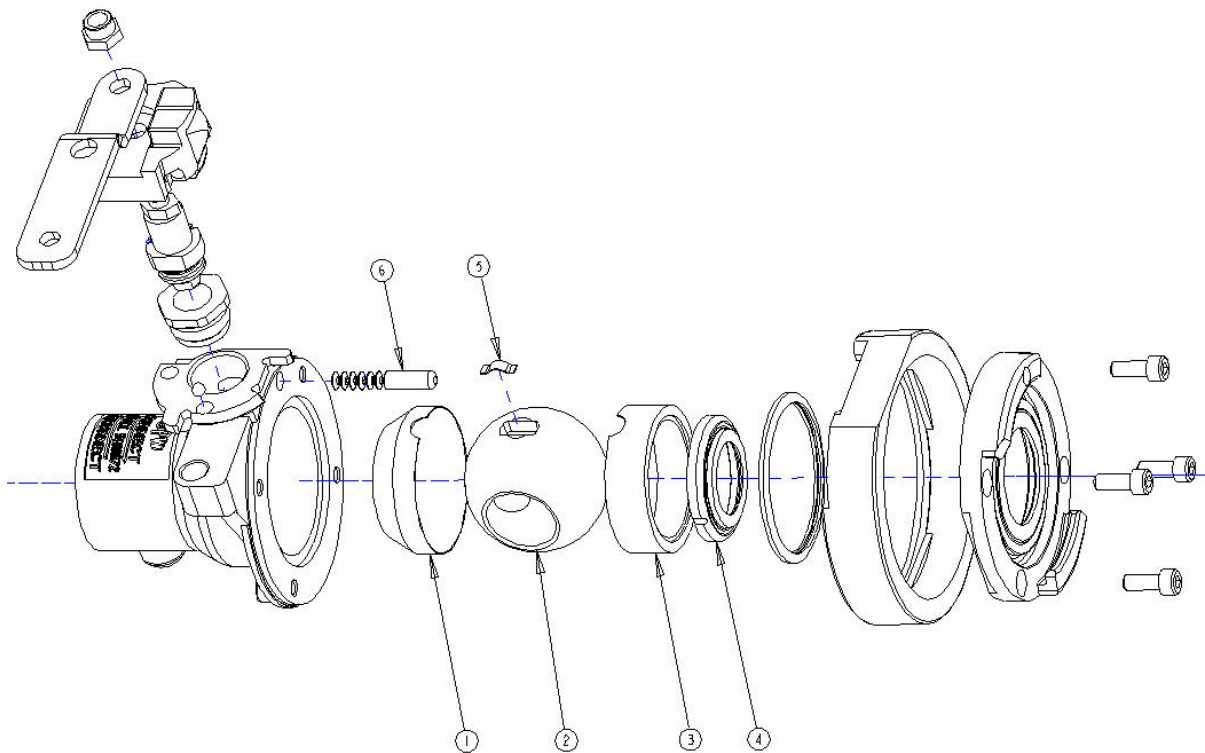

Figure 3
11. Place the stem and stem seal into the stem boss with the flat side of the gear aligned to the interlock hole axis and with care torque down the stem bearing to seat the stem bearing, stem and stem seal. Rotate the rear cavity filler as necessary to clear the stem, see figure 3 for orientation. Torque down.
12. Note orientation in Figure 3. Slide interlock rack teeth first into the interlock rack hole. Apply light force with finger to keep in place and with open end wrench, turn the stem clockwise until the ratcheting stops. While applying light force, rotate the stem counterclockwise to retract the interlock pin into the body.
14. With the body standing on the end fitting, place the front cavity filler (see balloon 3) into the body and over the ball and the stem. See Figure 3 for orientation.
15. Align the flange and ball seal over the ball and with the screw holes. Rotate the flange so that the interlock rack will move through the flange hole as necessary. See Figure 3 for orientation.